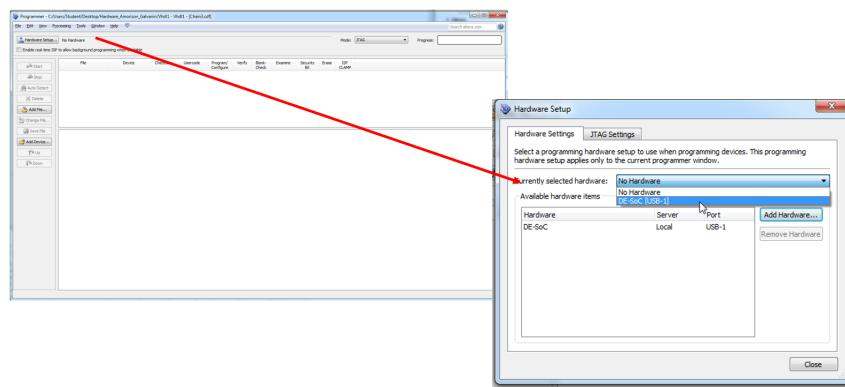

FIGURE 6.2 – Hardware Setup
- A new window will open, click on “Hardware Setup” and choose your hardware (Figure 6.2) ;